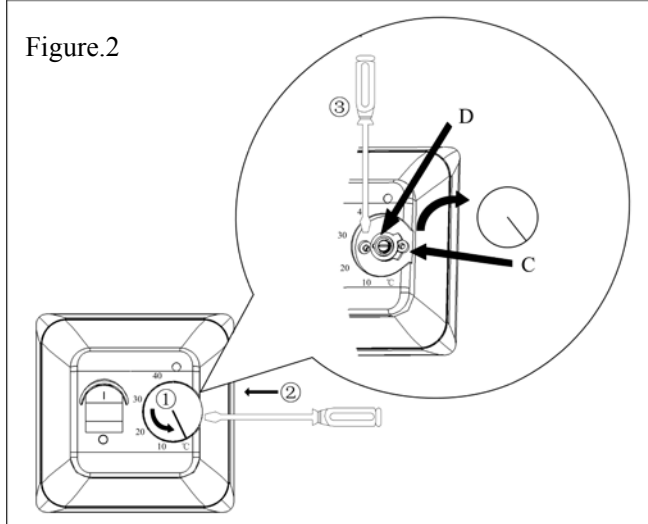

Figure.2
- c) Rotate the adjuster bar D (shown in Fig.2) until the LED is turned off;
The lock mechanism under the control knob can be used to restrict the adjusting temperature range. User can lock the adjusting range (e.g.20-25°C) as long as loosening the screw C (shown in Fig.2). The top adjusting ring can restrict the maximal temperature, and the under one can restrict the minimal temperature.